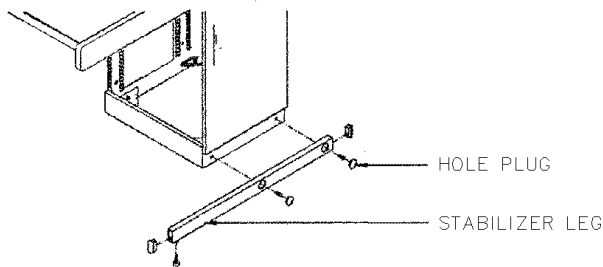

Figure 3-11 STABILIZER KIT
NOTE: If the console has a keyboard recess, a shorter keyboard support rail is used in place of a writing support rail. Refer to Figure 3-11.
Refer to Figure 3-11. For cabinetry consisting of two or more in-line cabinet bays, two (2) stabilizer kits are required - one at each end of the console. For
2. Fasten with two (2) # -20x hex bolts.
3. Conceal the bolts by placing hole plugs as shown in Figure 3-11.